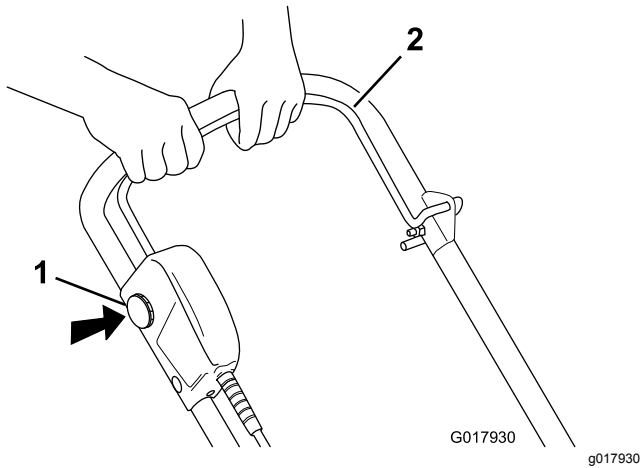

Figure 10
1. To start the motor, insert the interlock key, press and hold the interlock button, and squeeze the power control bar to the handle (Figure 10).